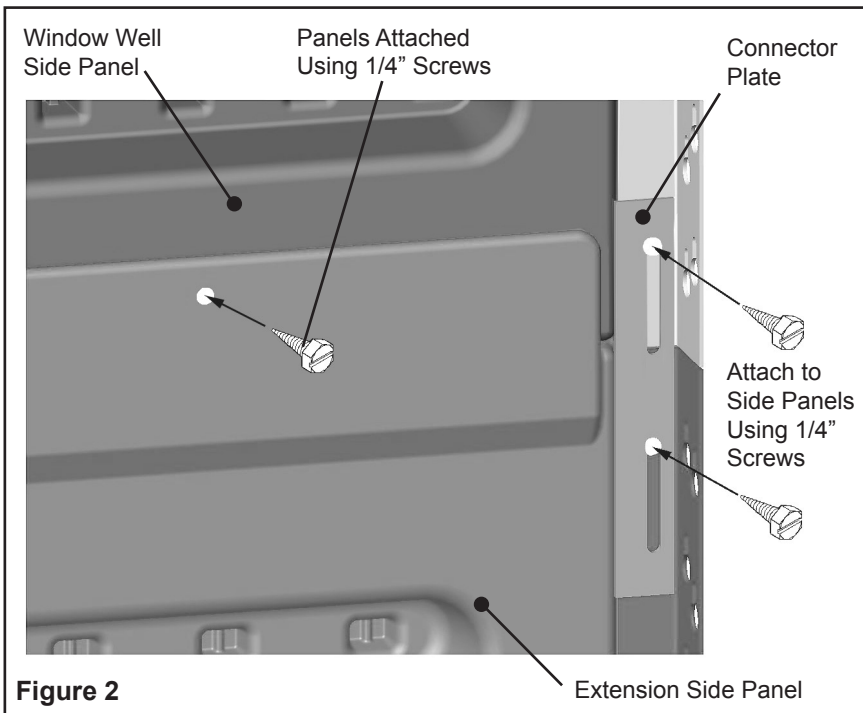

Figure 2
Attach extension side panels to window well side panels using the 1/4-20 x 1" screws provided, see Figure 2.
STEP 3: Attach connector plates to the side panels as shown in Figure 2 using the 1/4-20 x 1" screws provided.